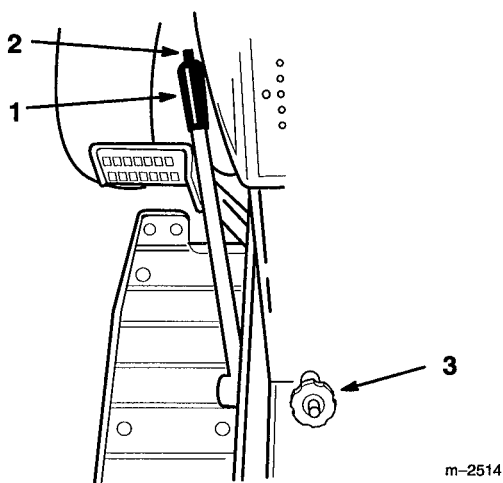

Figure 11
The attachment lift lever (Fig. 11) is used to raise and lower various attachments.
The Dial-A-Height control (Fig. 11) is used to limit the downward travel of the attachment. The knob is rotated to change the location of this stop, up or down.
1. Raise the attachment lift lever: Refer to Raising Attachments. In the raised position the Dial-A-Height knob (Fig. 11) can be rotated to change the stop location. Turn right to raise and left to lower the height of the attachment.
2. The Dial-A-Height indicator (Fig. 11) will show the change, high to low, in attachment lift height as adjustment is made.